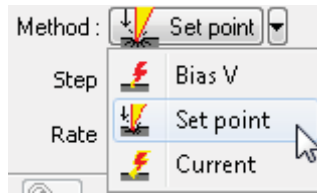

Fig. 13-15. Selecting the lithography method
5. For Force lithography, select **SetPoint** in the **Method** drop-down list (Fig. 13-15).